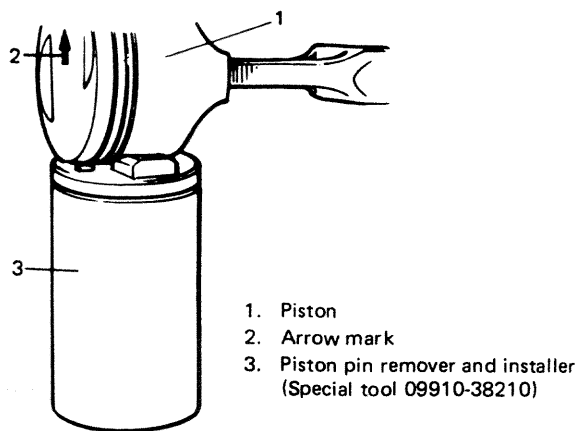
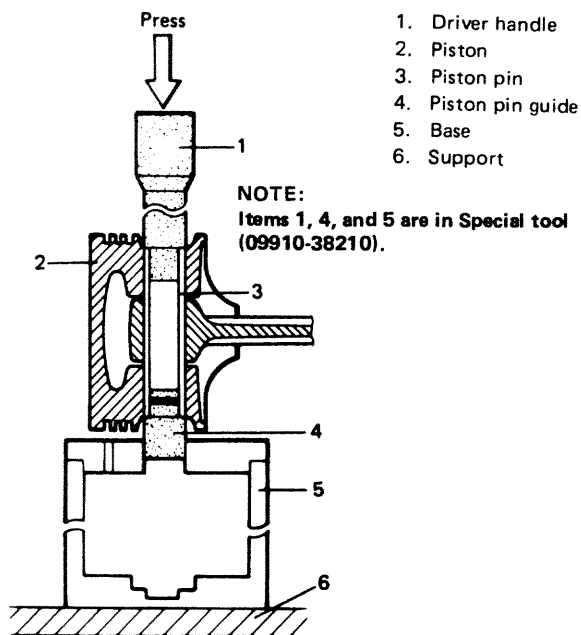

Fig. 3-4-36
Fig. 3-4-37
- b) Remove piston pin from connecting rod. Fit piston and connecting rod assembly to special tool (Fig. 3-4-36), and then press piston pin out of connecting rod by using arbor press (Fig. 3-4-37).